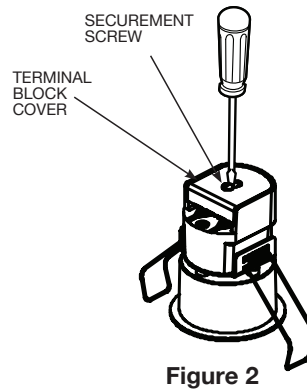

Figure 2
Step 4: Remove terminal block cover located at top of fixture (Fig. 2). Insert the two secondary leads into adjacent terminals on the right or left side of the terminal block (Fig. 3). The remaining terminals are for daisy-chain wiring if desired). Secondary wiring is not polarized. Tighten terminal block screws securely to retain wires. (4" lb minimum).